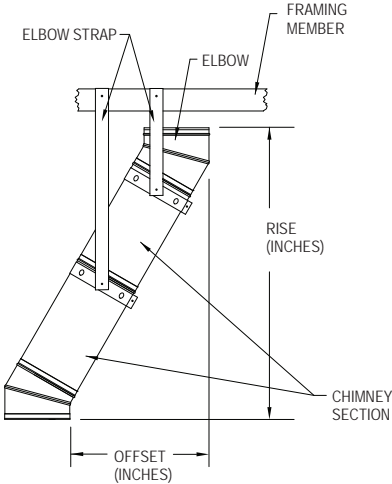

Figure 15
1. Attach Elbows: Attach Elbow to Chimney Section or other Elbow by mating the male and female ends with each other and using the (6) sheet metal screws provided. Attach one Elbow to the Chimney Section below, and align it for the offset. Refer to **Table 3** to determine the required offset length and attach an appropriate length (or lengths) of Chimney Section(s) above the Elbow. For each Chimney Section in the offset, an Elbow Strap must be used to support the weight of that pipe section. No more than half of the total chimney run can be between the elbows (inclined); this is to ensure the chimney drafts properly (e.g. if the total chimney run is 20-ft, no more than 10-ft is allowed to be between the elbows). Attach the second Elbow above the Chimney Section to complete the offset (**Fig 15**).
2. Secure Offset: Place the Elbow Strap band around the angled portion of the top Elbow, then tighten the nut and bolt until the clamp is firm. Wrap the Elbow Strap end over an adjacent joist or rafter and secure it with at least two 8-penny nails or #8, 1-1/2" screws. Do not add more Chimney Sections until the Elbows are supported. Be sure that the chimney remains vertical (**Fig 15**).